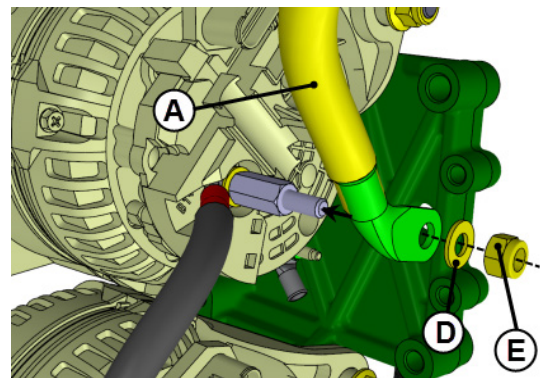

FIGURE 11
9. Reinstall power cable **A**. To do so, connect power cable **A** to the upper alternator **B1+** stud terminal. Refer to **FIGURE 11**.